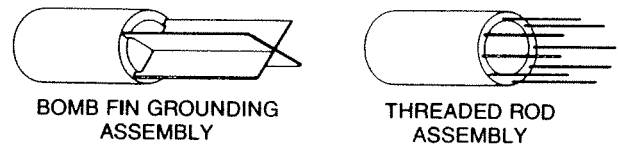

Figure 3
8. Two proven types of flame grounding adapters as shown in Fig. 3 may be used to provide adequate grounding surface. High temperature stainless steel should be used to minimize the effect of metal oxidation. This assembly may be welded directly over the pilot or main flame burner nozzle.